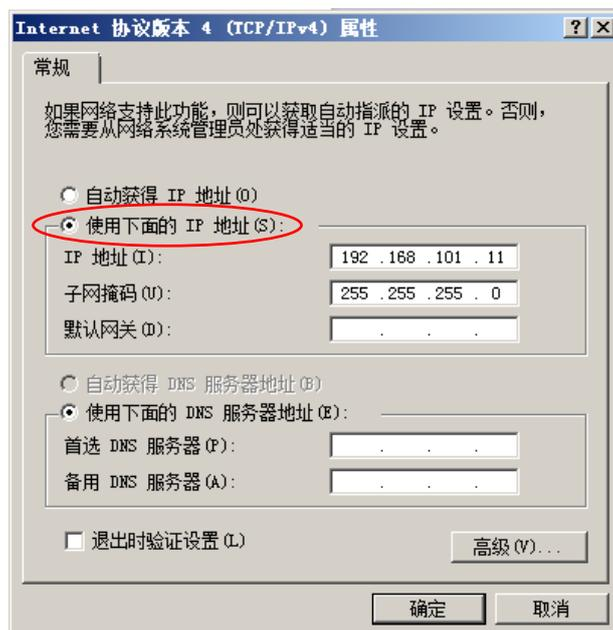

Fig. 12
6. Set the IP address as shown in Figure 12 and click OK to complete the network card setup.